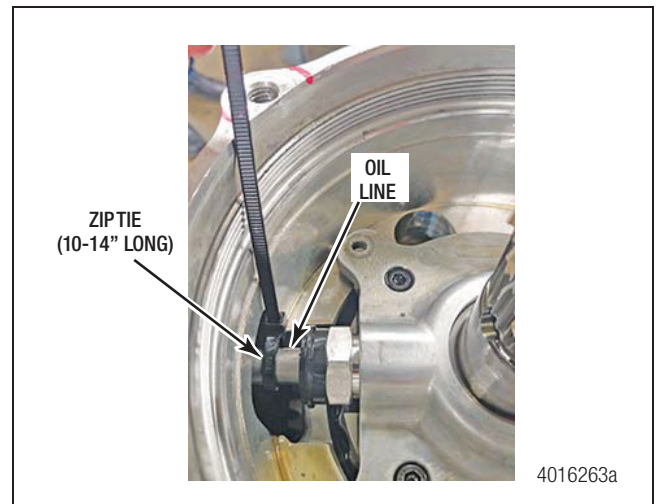

Figure 4.8
- Install a long zip tie (10-14") on the oil line as shown. This will keep the plastic shroud from falling into the housing. Figure 4.8.